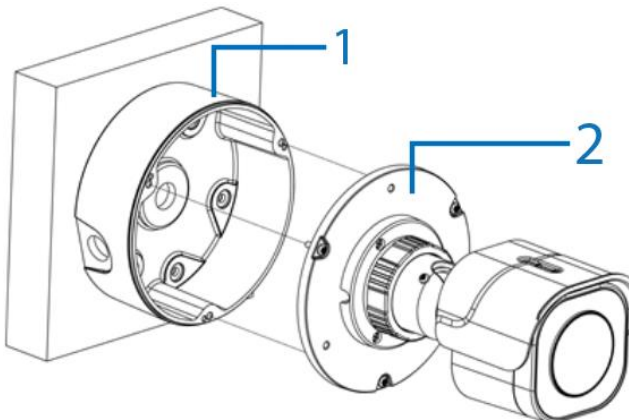

Figure 10
- Align the three holes on the camera base (2) (Figure 10) with the three holes on the junction box (1) (Figure 10).